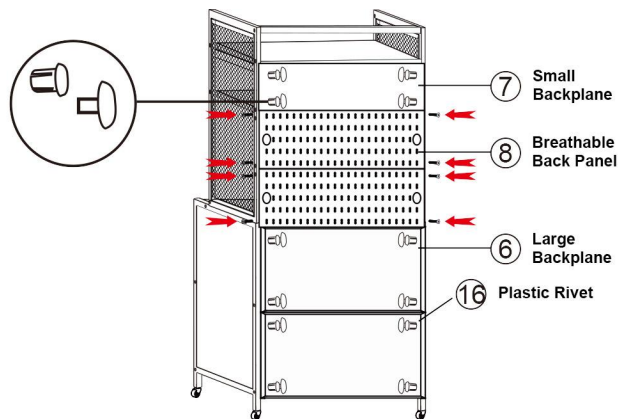

Figure 3
Step 3: Turn the shelf over, align the holes on the backplane and the bracket, and then press the plastic rivets into the holes of the bracket to fix the large and small backplane. Then fix the Breathable back panel with long hexagon socket flat head screws. After installing all the backplanes. Then tighten the screws of the laminate, as shown in Figure 3;